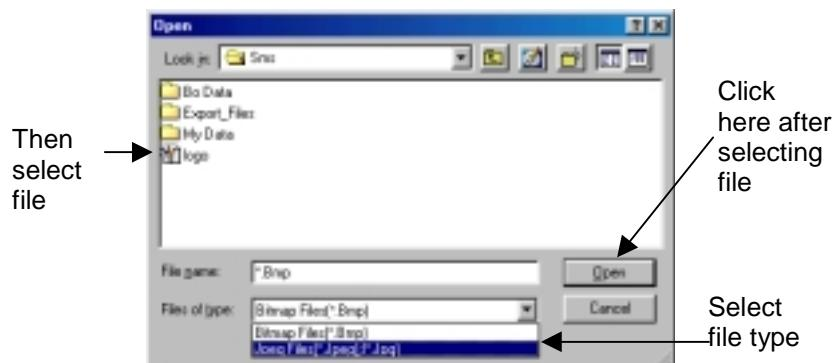

Figure 14.2 Opening the Logo
2. Select either .bmp or .jpg file type from the Files of type drop-down menu (Figure 14.2).
3. Select file to insert as logo (Figure 14.2).
4. Click the open button (Figure 14.2).